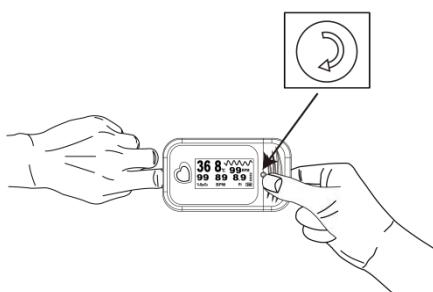

Figure 6
- 1) Press the Screen turn switch, See figure 6.